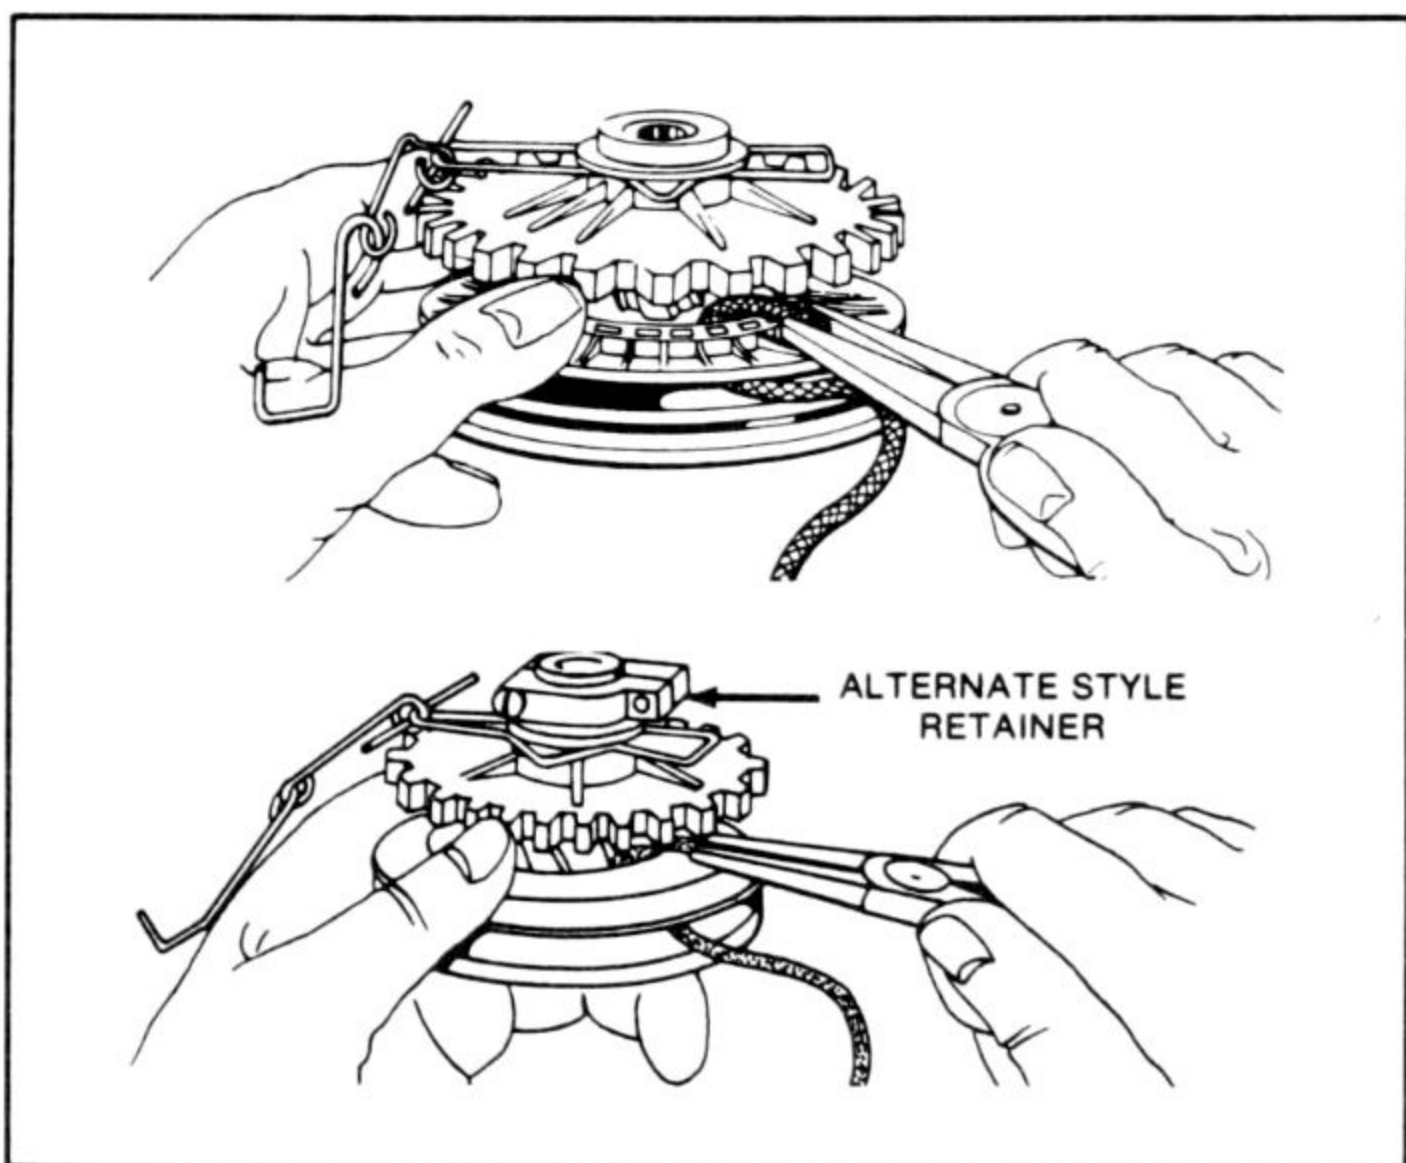

Fig. 4-22. Rope can be disengaged from sheave with long-nosed pliers.
6. Rope can be detached from sheave with the aid of long-nosed pliers. Figure 4-22 illustrates this operation and link retainer variations.